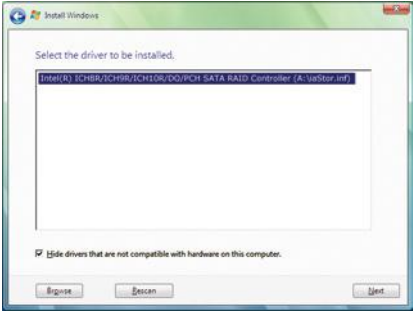

Figure 7
When a screen as shown in Figure 7 appears, select **Intel(R) ICH8R/ICH9R/ICH10R/DO/PCH SATA RAID Controller (A: 'ataStor.inf')** and click **Next**.